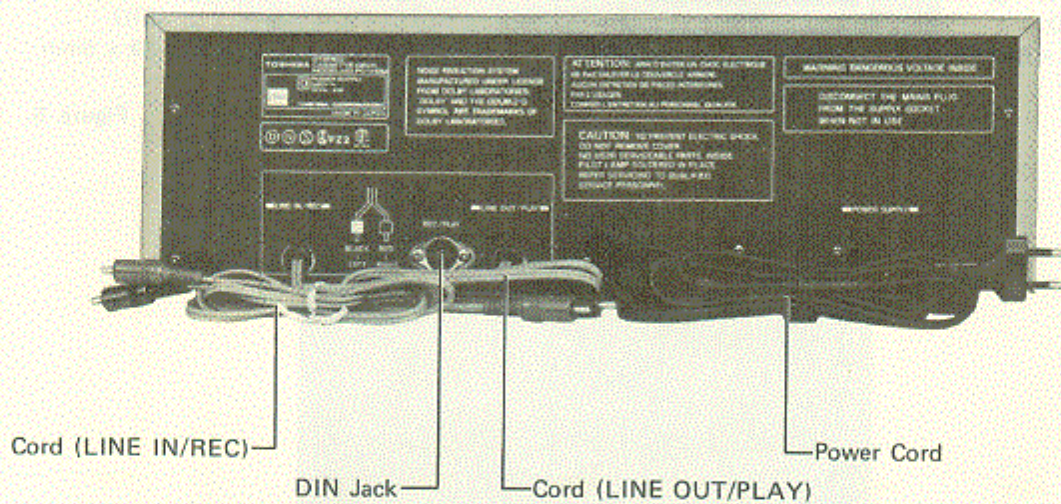

Figure 3.
* Photograph shown in Fig. 3 is for Middle East, Asia and South America. For U.S.A. and Canada, the DIN Jack is omitted.